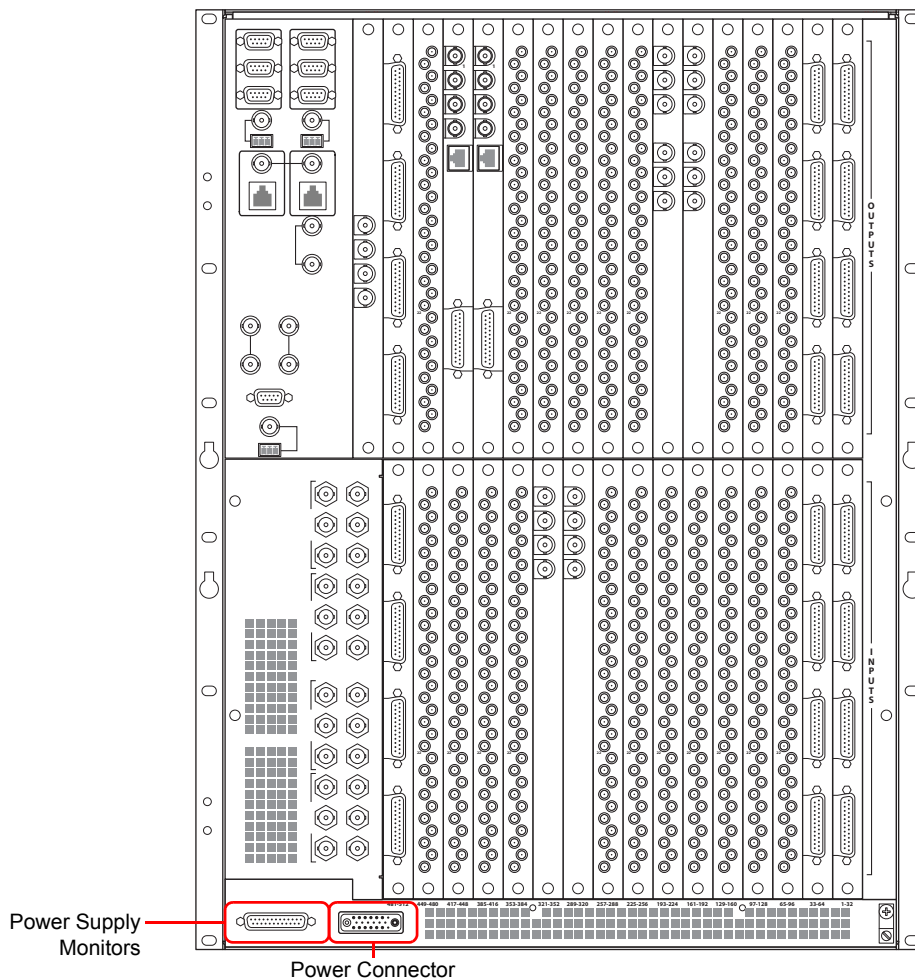

Figure 2-3. Location of Power Supply Monitor Connection
- 4 Facing the rear of the **router**, connect the other end of the power supply cable to ‘POWER INPUT’, as shown in Figure 2-3.
- 6 Facing the rear of the **router**, connect the other end of the monitor cable to ‘POWER SUPPLY MONITORS’, as shown in Figure 2-3.
- 5 Facing the rear of the **first router** (Router 1), connect the other end of the power supply cable to 'POWER INPUT', as shown in Figure 2-3 on page 37.
- 7 Facing the rear of the **second router** (Router 2), connect the other end of the power supply cable to 'POWER INPUT', as shown in Figure 2-3 on page 37.
- b (Optional) Facing the front of the **NV6257**, install redundant PS6000 power supply modules in slots *PS 2*, *PS 4*, *PS 6* and *PS 8*, as shown in Figure 2-3 on page 37.